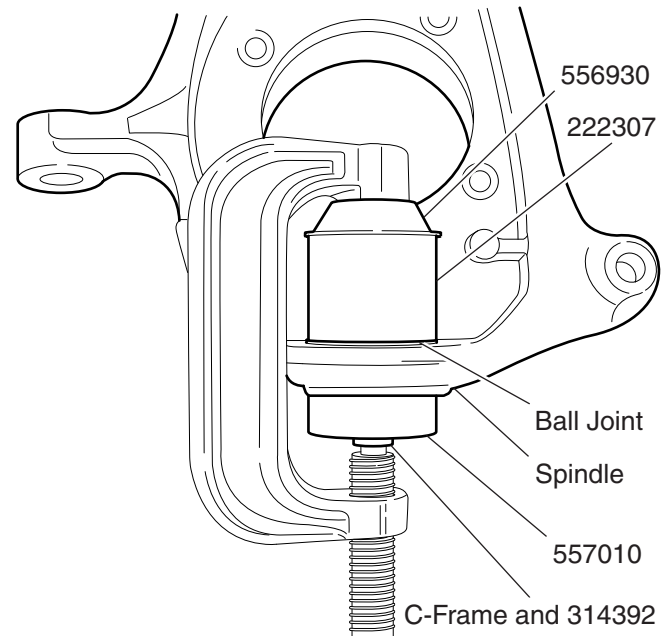

Figure 2. Ball Joint Installation
3. Position 556930 and 222307 on the ball joint as shown in Figure 2.